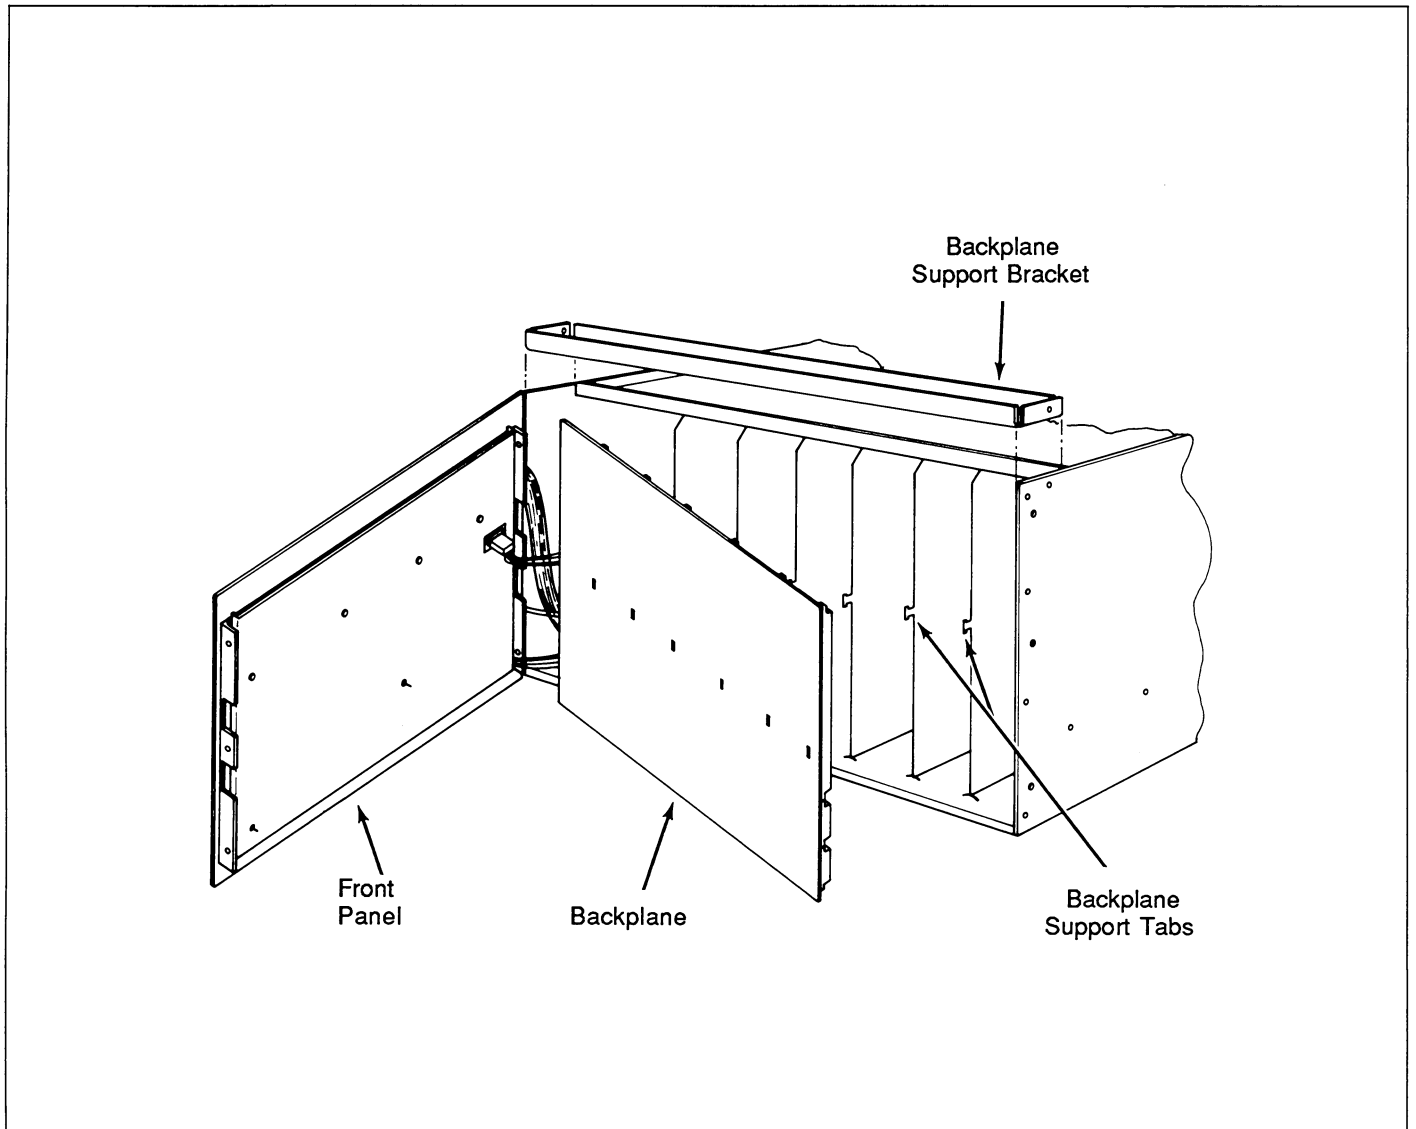

Figure 3-22. Backplane Removal
6. Grasping the backplane by its edges, lift it off the backplane support tabs. Swing the backplane to the left and rest it on its edge as shown in Figure 3-22.